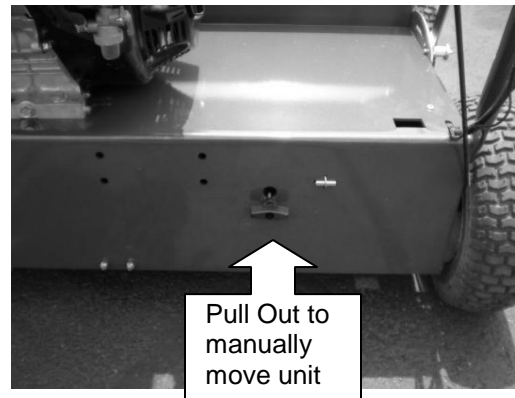

Figure 1b
- Pull the “transmission engagement T-handle” out, this puts the unit into neutral/freewheel (see figure 1b).